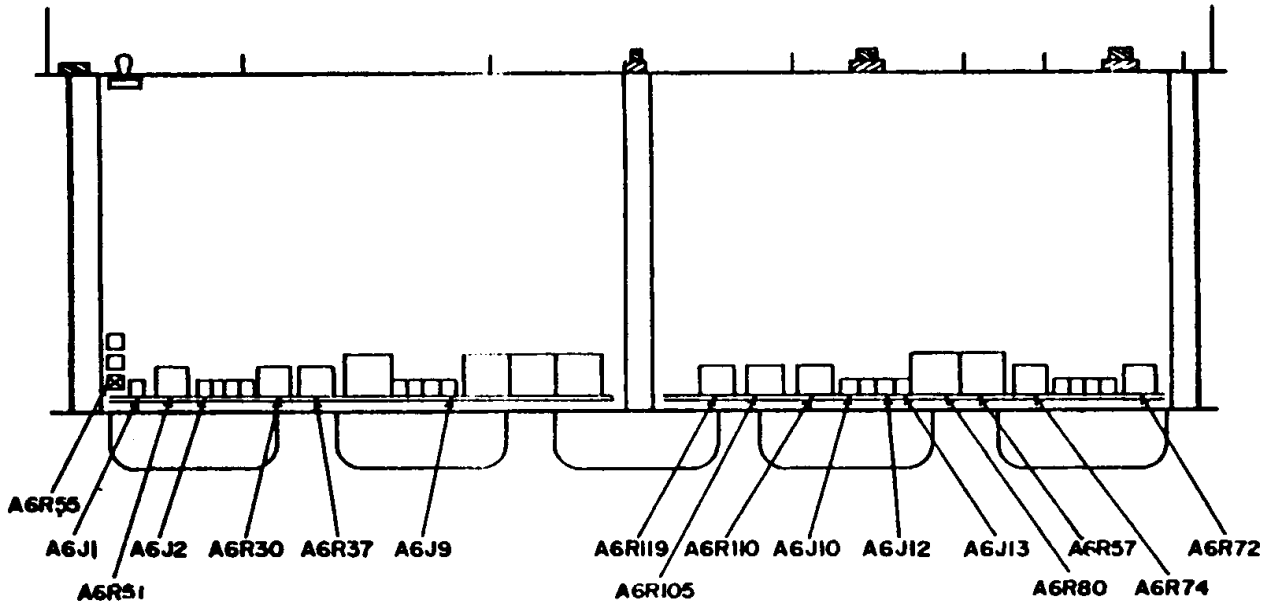
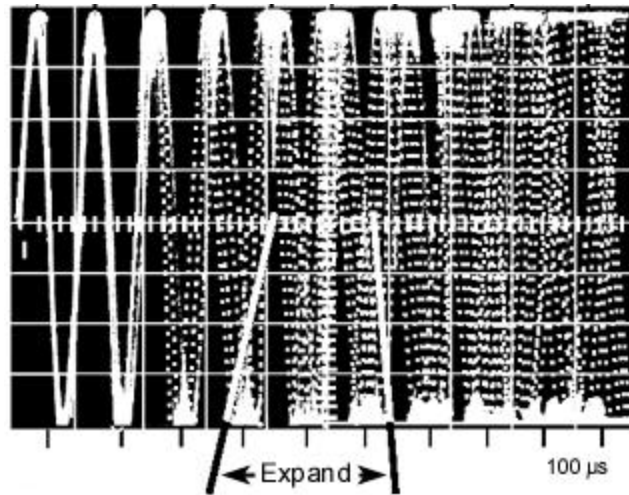
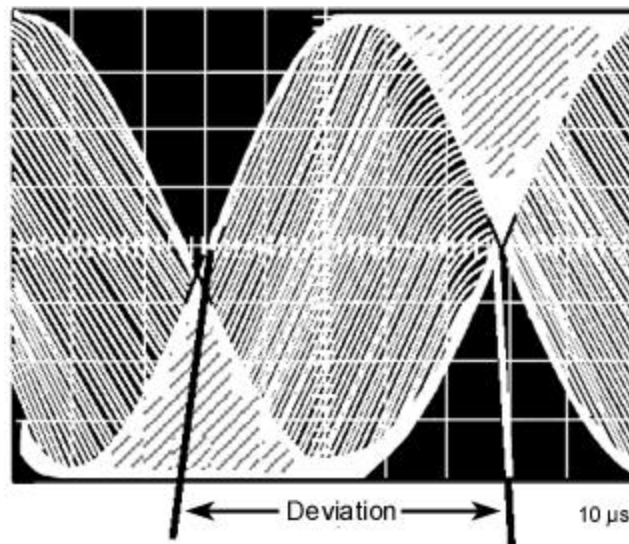

Figure 3. Test instrument - top view
Figure 5. 9960 Hz FM Deviation Display.
Figure 6. 9960 Hz FM Deviation Display with Jitter expanded.
- (1) Connect frequency counter to TI **J3**. Short A6J9 (fig. 3) to ground.
- (2) Set **VOR PWR** switch to **ON** and **VOR 108.00-108.05** switch to **108.00**. If frequency counter does not indicate between 107.9973 and 108.0027 MHz, perform **b(1)** below.
- (3) Set **VOR 108.00-108.05** switch to **108.05**. If frequency counter does not indicate between 108.0473 and 108.0527 MHz, perform **b(2)** below.
- (4) Set **VOR PWR** switch to **OFF** and **LOC PWR** switch to **ON**.
- (5) Set **LOC 108.10-108.15** switch to **108.10**. If frequency counter does not indicate between 108.0973 and 108.1027 MHz, perform **b(3)** below.
- (6) Set **LOC 108.10-108.15** switch to **108.15**. If frequency counter does not indicate between 108.1473 and 108.1527 MHz, perform **b(4)** below.
- (7) Remove short from A6J9 (fig. 3) and connect to A6J1 (fig. 3). Set **LOC PWR** switch to **OFF** and **GLIDE SLOPE PWR** switch to **ON**.
- (8) Set **GLIDE SLOPE 334.70-334.55 (334.70-334.10)** switch to **334.70**. If frequency counter does not indicate between 334.69164 and 334.70836 MHz, perform **b(5)** below.
(9) Set **GLIDE SLOPE 334.70-334.55 (334.70-334.10)** switch to **334.55 (334.10)**. If frequency counter does not indicate between 334.54164 and 334.55836 (334.0916 and 334.1084) MHz, perform **b(6)** below.
(10) Set **GLIDE SLOPE PWR** switch to **OFF** and remove short from A6J1.
(11) Remove connection from **J3** and connect to **J1**.
(12) Set **MKR BCN PWR** switch to **ON**. If frequency counter does not indicate between 74.99625 and 75.00375 MHz, perform **b(7)** below.
(1) Connect power meter to TI **J1**. If power meter does not indicate greater than -20 dBm, perform **b**(1) below.
(2) Set **MKR BCN PWR** switch to **OFF** and **VOR PWR** switch to **ON**.
(3) Short A6J9 (fig. 3) to ground.
(4) Move power meter connection from **J1** to **J3**. If power meter does not indicate greater than -10 dBm, perform **b**(2) below.
(5) Set **VOR PWR** switch to **OFF** and **LOC PWR** switch to **ON**.
(6) Remove short from A6J9 and connect to A6J2 (fig. 3). If power meter does not indicate greater than -10 dbm, perform **b**(3) below.
(7) Set **LOC PWR** switch to **OFF** and **GLIDE SLOPE PWR** switch to **ON**.
(8) Remove short from A6J2 and connect to A6J1 (fig. 3). If power meter does not indicate greater than -20 dbm, perform **b**(4) below.
(9) Remove short from A6J1.
(1) Set **GLIDE SLOPE PWR** switch to **OFF** and **VOR PWR** switch to **ON**. If **VAR** light is illuminated, press light to extinguish.
(2) Connect measuring receiver power sensor module to TI **J3**. Position measuring receiver controls to measure **AM**.
(3) Press and hold **VOR 30VAR** and **30REF** pushbuttons. If measuring receiver does not indicate between 27 and 33 percent, perform **b(1)** below. Release **VOR 30VAR** and **30REF** pushbuttons.
(4) Short A6J12 (fig. 3) to ground, using lead and adapters. If measuring receiver does not indicate an amplitude modulation between 27 and 33 percent, repeat **b(1)** below for best intolerance compromise between **a(3)** and (4).
(5) Set **VOR 1020HZ** switch to **ON**. Press and hold **VOR 30VAR** pushbutton. Measuring receiver will indicate an amplitude modulation between 5 and 15 percent. Release **VOR 30VAR** pushbutton.
(6) Connect audio analyzer to measuring receiver modulation output.
(7) Press and hold **VOR 30VAR** pushbutton. Measure distortion. Audio analyzer will indicate less than 10 percent. Release **VOR 30VAR** pushbutton.
(8) Set **VOR 1020HZ** switch to **OFF**.
(9) Measure distortion. Audio analyzer will indicate less than 5 percent.